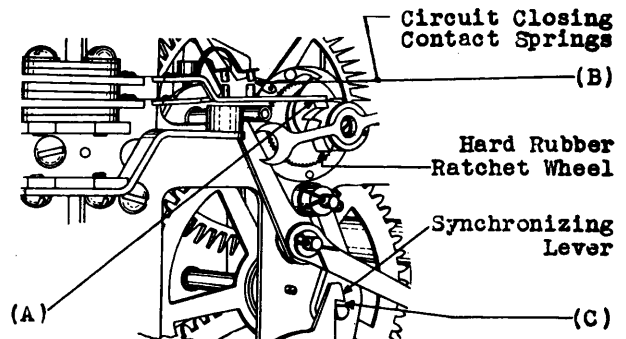

Fig. 3 - Circuit Closing Contacts and Ratchet Wheel
*2.06 Clearance Between Contact Springs and Ratchet Wheel Teeth - Fig. 3 (A): When the synchronizing mechanism operates, there shall be a perceptible clearance between the tips of the circuit closing contact springs and the teeth of the hard rubber ratchet wheel as the seconds hand is restored to the 60 seconds position. Gauge by eye.
*2.07 Contact Separation - Fig. 3 (B): With the contact springs in the normal position there shall be a separation between each pair of contacts of Min. .012" Use the No. 74D gauge.
***2.23 Synchronizing Lever Operation - Fig. 3 (C)**